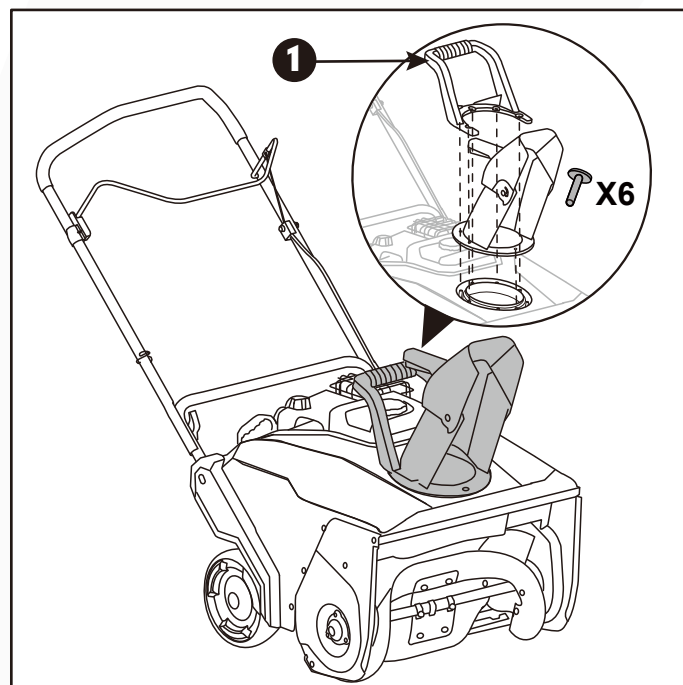

Fig.3B
2. Place the chute rotation handle over the chute and align the holes. (Fig.3B)
3. Attach the discharge chute with handle to the snow blower body using the six screws provided. (Fig.3B)